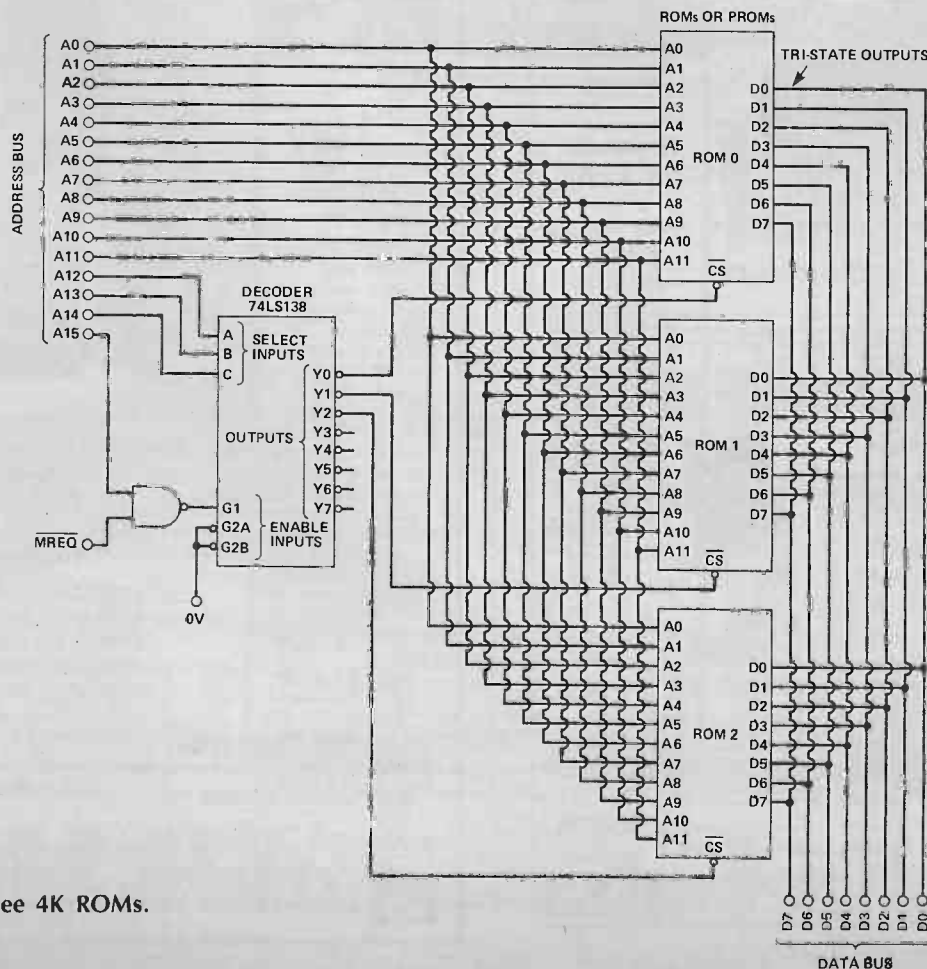

Fig. 4 Addressing three 4K ROMs.
The outputs of the roms to the data bus are **tri-state** outputs. That is to say they normally present a very high impedance; they are virtually disconnected from the bus and are incapable of either sending or receiving signals. Each ROM has one (more in some types) special input known as **chip select** (CS). The bar over the CS indicates that this is an active-low input. When the CS input is made low, data outputs go to a low-impedance state and whatever data is present on the set of cells currently being addressed is put on to the data bus. Fig. 4 shows how we control which ROM is to be active at any given time.
Readers who have taken the trouble to look at the circuit diagram of a computer and compare it with Fig. 4 may find that the ROM of their computer does not appear to be